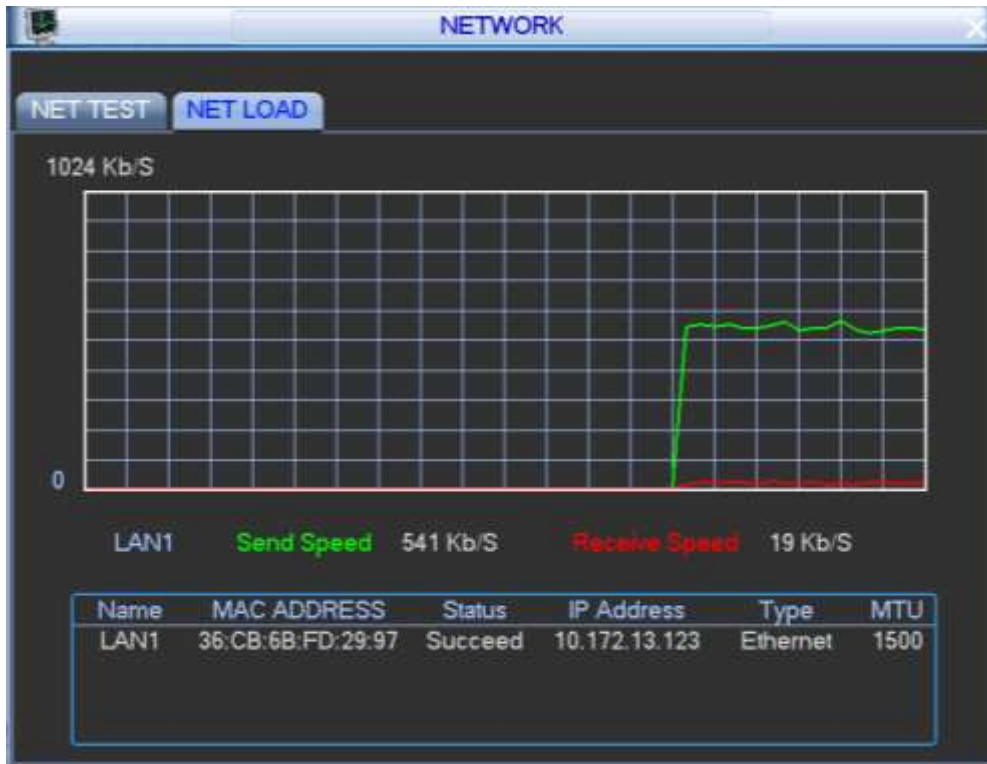

Figure 4-97
Step 1 From main menu->Info->Network->Load, network load is shown as in Figure 4-97. It is to view information of all connected network adapters. The connection status is shown as offline if connection is disconnected.